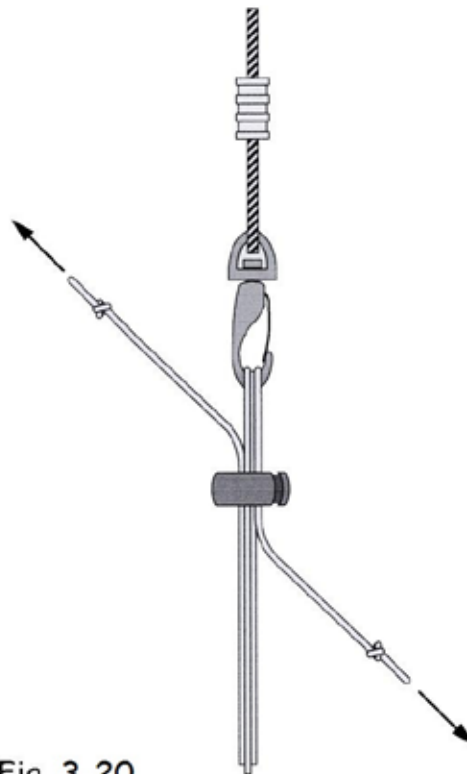

Fig. 3-20
- 13) Use the toggle on the tie-up to adjust the tension on the pedal. To increase tension, pull the two ends of cord away from the toggle (as shown in Figure 3-20). To decrease the tension, squeeze the buttons on either side of the toggle and move it up and down on the looped ends.